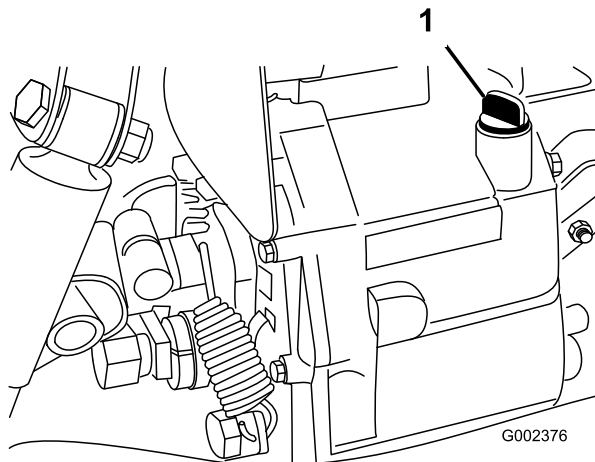

Figure 16
- Clean the area around the dipstick (Figure 16).